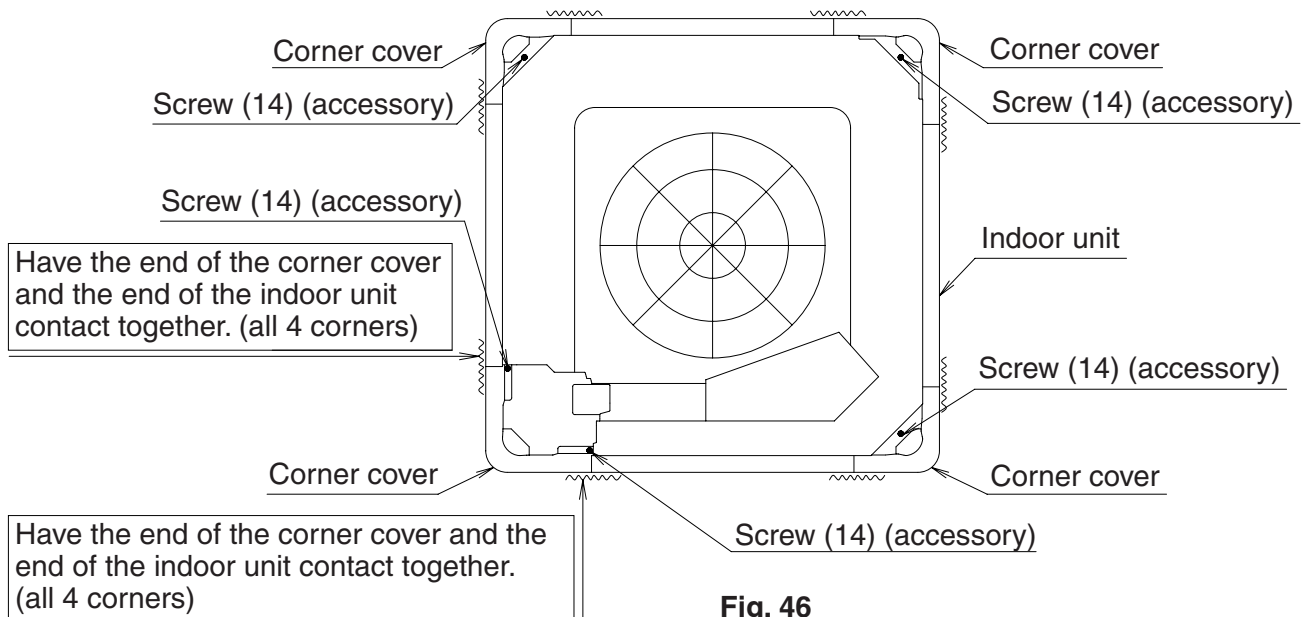

Fig. 46
Then, fix the corner cover with the attached screws (14) while pressing the corner cover so that the end of the corner cover and the end of the indoor unit contact together. **(Refer to Fig. 46)**